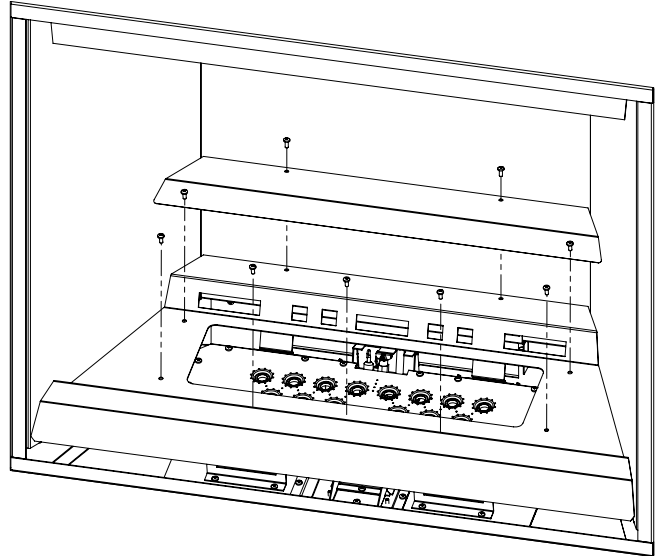

Figure 21. Media Tray Removal
5. Remove the upper tray hat by removing the two (2) upper T-20 screws.
6. Remove the seven (7) remaining T-20 screws securing the glass media tray (see Figure 21). Lift up and out.